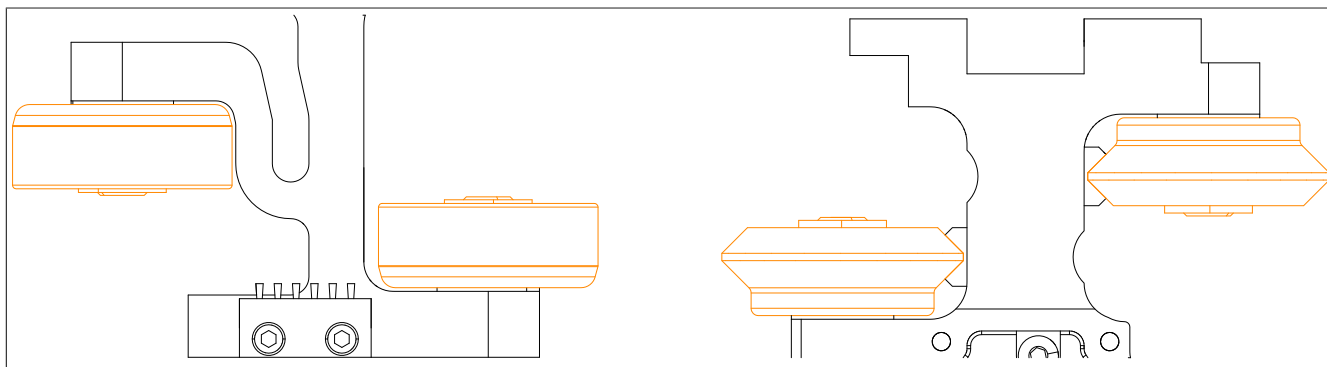

Figure 82: Arrangement of flat wheels and v-wheels
4. Insert the M4x16 hex socket screw (a) with the lock washer (b) through the bearing of the v-wheel (d) or flat wheel (for the orientation of the wheels, see Fig. 82 "Arrangement of flat wheels and v-wheels" on page 176). The cone of the lock washer (b) must point in the direction of the bolt head.